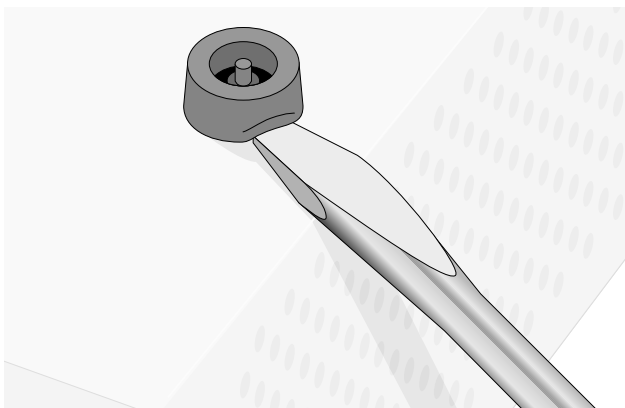

Figure 30 Removing the Feet
2. Using a flat-head screwdriver, remove the snap-on plastic feet from the bottom of the power supply, as shown in Figure 30.